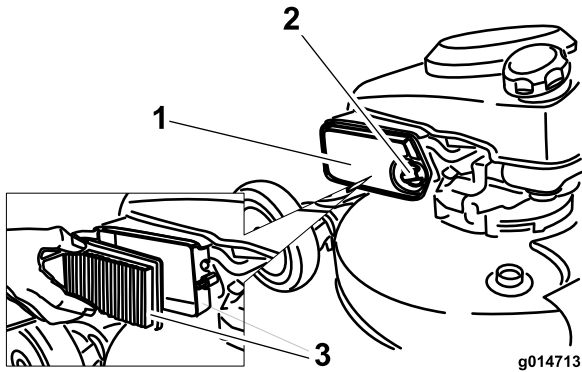

Figure 18
2. Unscrew and open the air filter cover (Figure 18).